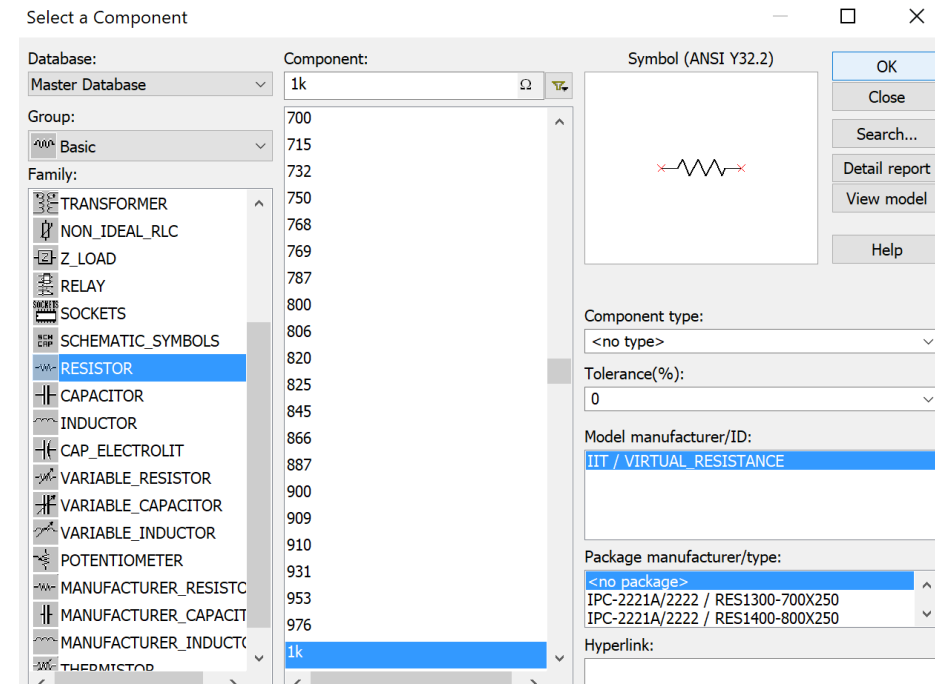

Fig. 2
- a dialog window will appear (Fig. 2)
- select Resistor and click “OK” (Fig. 2)